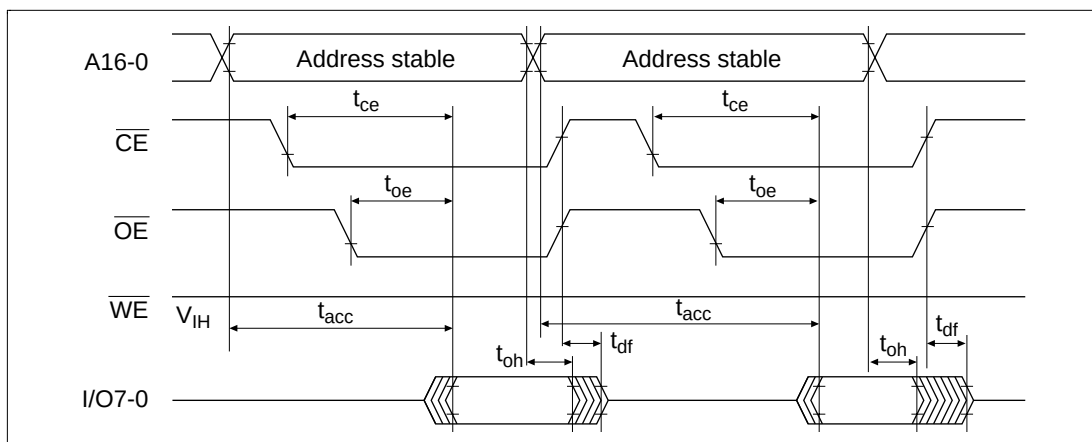

Figure 22.24 $\overline{CE}$ and $\overline{OE}$ Clock System Read Timing Waveforms
4. Memory address transfer is performed in the second cycle (figure 22.24). Do not perform transfer after the second cycle.